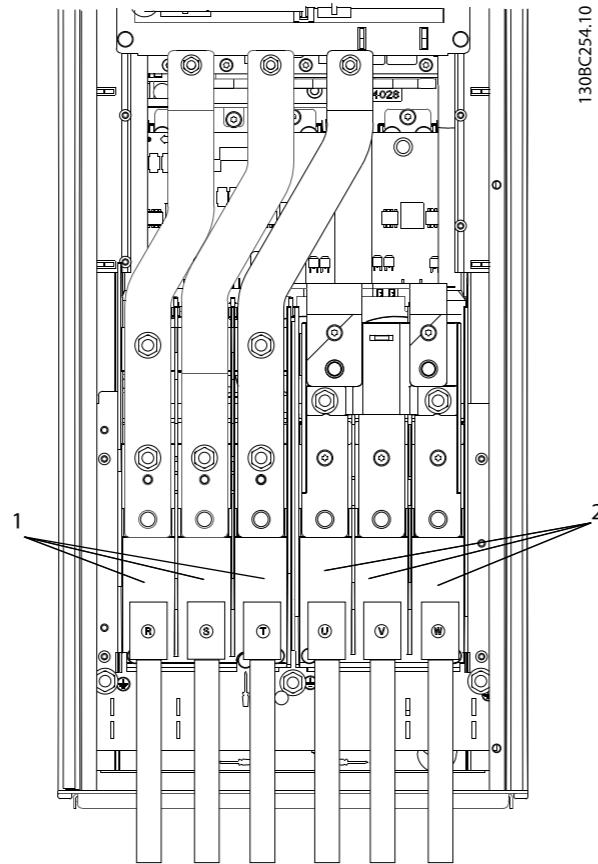

Figure 2.11 Connecting to AC Mains
- Connect 3-phase AC input power wiring to terminals L1, L2, and L3 (see Figure 2.11).